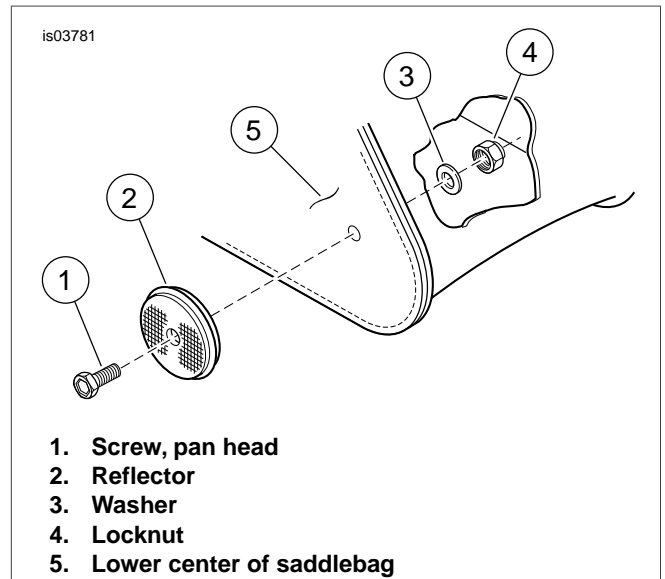

Figure 3. Install Reflector
7. See Figure 3. Punch hole in saddlebag and mount reflector with pan head screw, washer and locknut as shown.